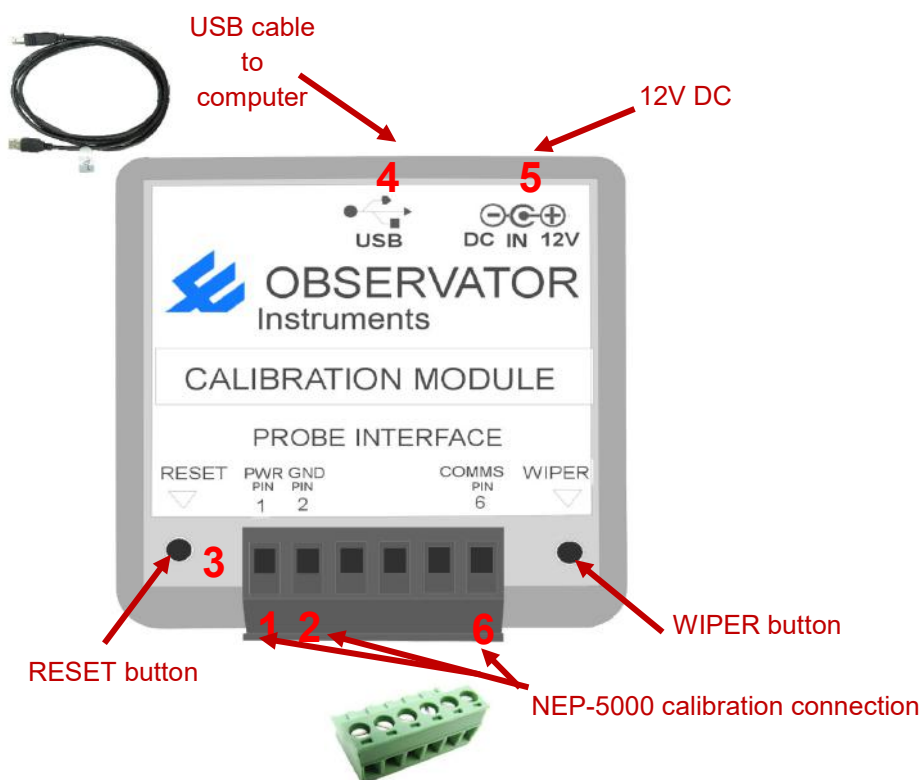

Figure 6.G: Bluebox calibration module
3. Connect the provided USB cable to the calibration module (Figure 6.G: #4).
4. Refer to **chapter 9**, in order to “Connect to the calibration software”. Press reset when required to reset the communication (Figure 6.G: #3) with the sensor.